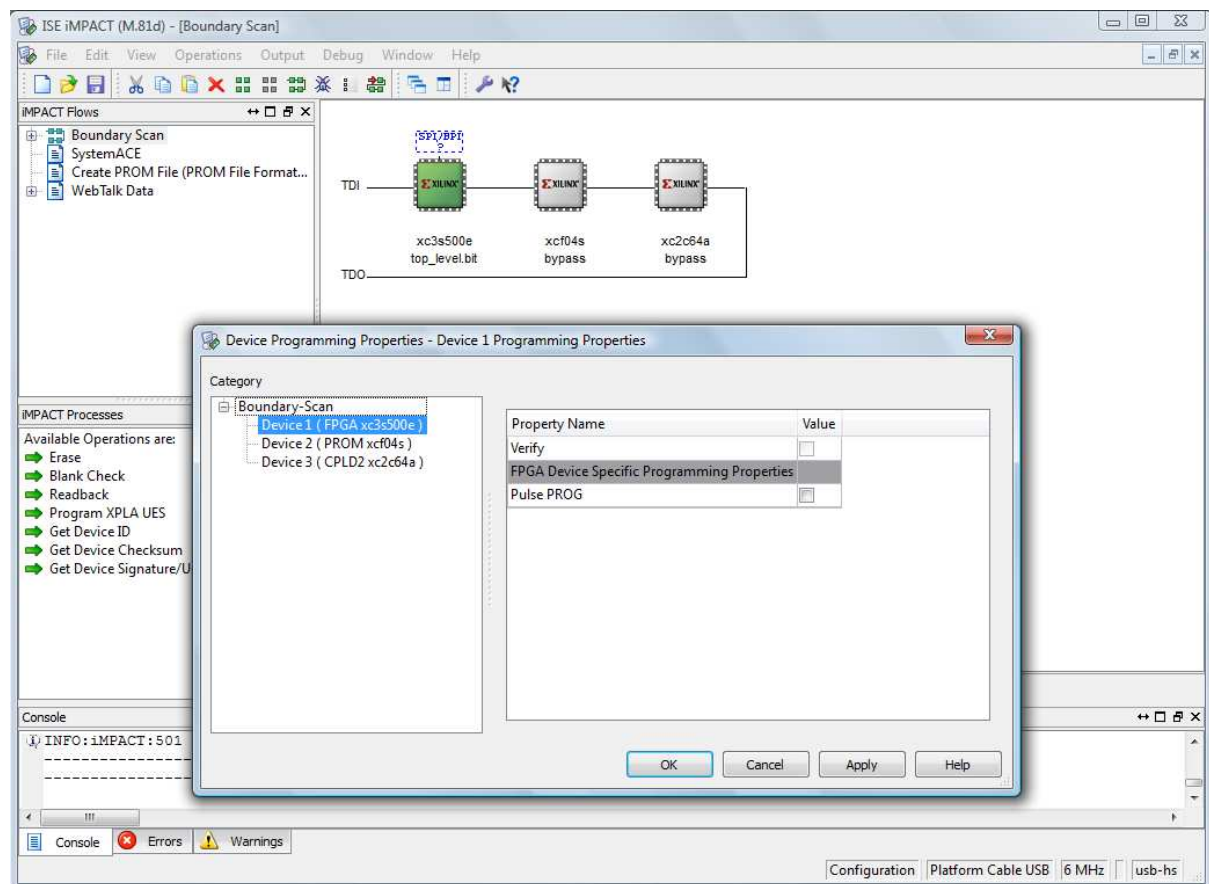

Figure 5.46: iMPACT window, Device Programming Properties dialog box.
12. A window entitled **Device Programming Properties – Device 1 Programming Properties** will appear (Figure 5.46). Click **OK**.